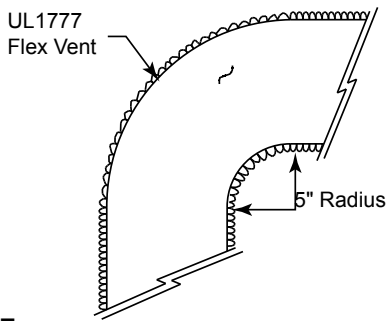

Figure 54 – Minimum Radius for Flex Vent Section
- SLP-HVS supports offsets. *Figure 54*. This application will require that you first determine the roof pitch and use the appropriate starter kit. (Refer to Venting Components list)
3. Do not allow the flexible vent to bend in radius tighter than 5" (127 mm). *Figure 54*